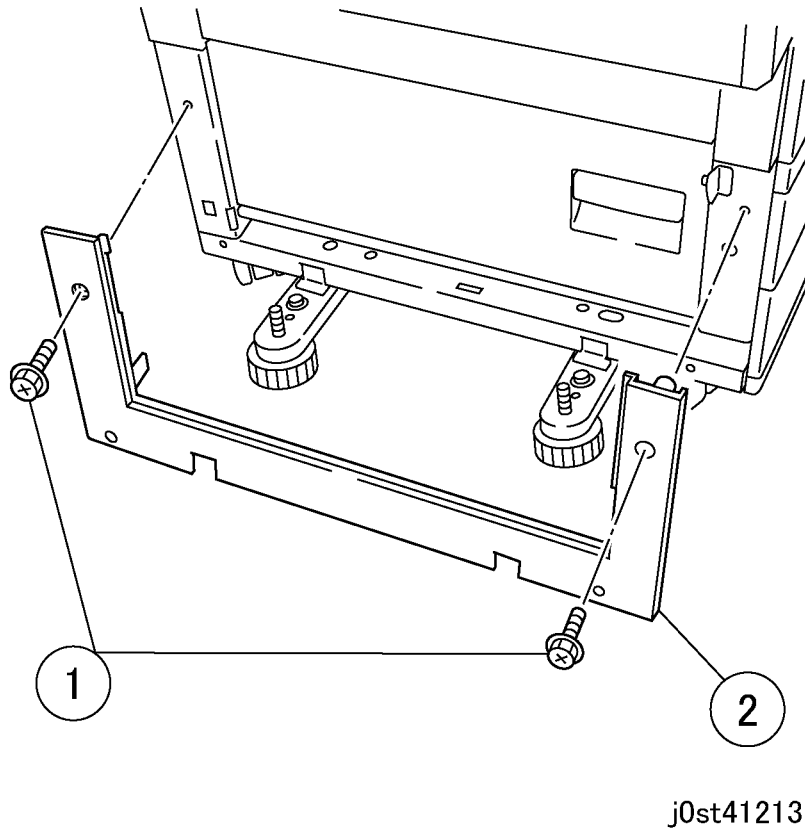

Figure 2 Removing the Left Lower Cover (j0st41213)
3. Remove the Left Lower Cover. (Figure 2)